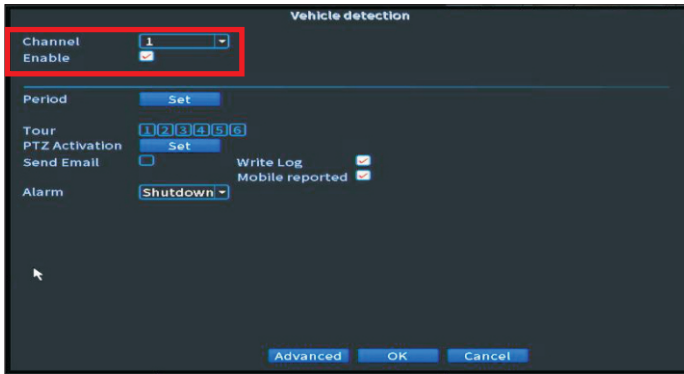

Figure 4. Enable check box. Select Channel Number.
- Click the enable check box and select the Channel number to be set for Vehicle Detection function. Refer to Figure 4.